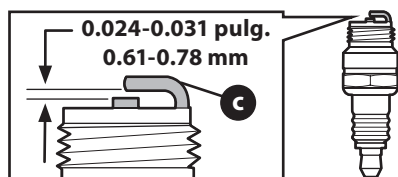

Figure 15
3. Measure the plug gap with a feeler gauge. Correct as necessary by bending electrode (c) (Figure 15). The gap should be set to 0.024–0.031 in (0.61–0.78 mm).